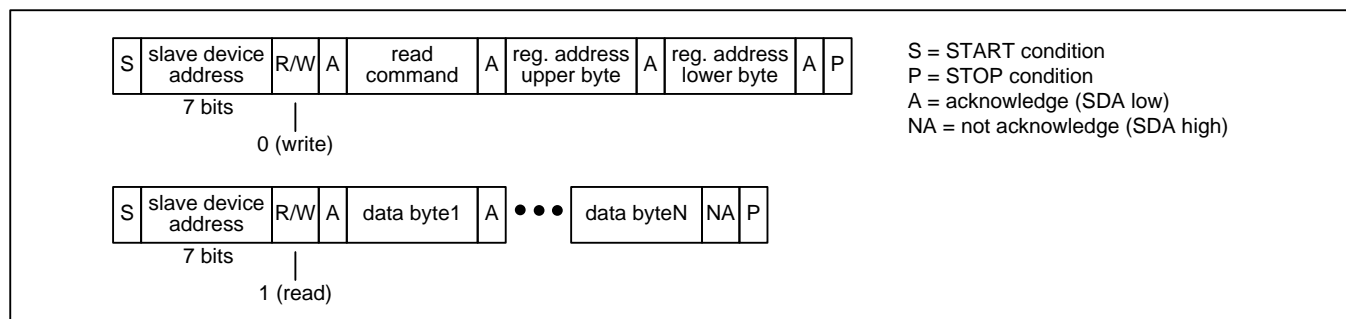
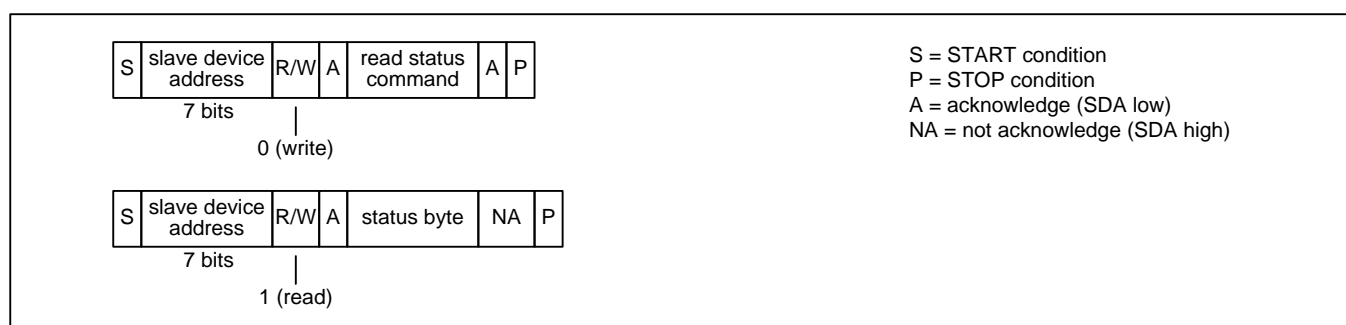

Figure 9 - I²C Read Transaction Functional Timing
Figure 12 - I²C EEPROM Read Status Transaction Functional Timing (ZL30261 and ZL30263 Only)
Read Transactions. The device registers are accessible when the EESSEL bit is 0. On ZL30261 and ZL30263 the internal EEPROM memory is accessible when the EESSEL bit is 1. On ZL30260 and ZL30262 the EESSEL bit must be set to 0. The bus master first does an I²C write to the device. In this transaction three bytes are written: the SPI Read command (see Table 3), the upper byte of the register address, and the lower byte of the register address. The bus master then does an I²C read. During each acknowledge (A) bit the device fetches data from the read address and then increments the read address. The device then transmits the data to the bus master during the next 8 SCL cycles. The bus master terminates the read with a not-acknowledge (NA) followed by a STOP condition (P). See Figure 9. After the I²C write there can be unlimited idle time on the bus before the I²C read, but the device cannot tolerate other I²C bus traffic between the I²C write and the I²C read. Care must be taken to ensure that the I²C read is the first command on the bus after the I²C write to ensure the two-part read transaction happens correctly.
EEPROM Read Status (ZL30261 and ZL30263 Only). The bus master first does an I²C write to transmit the SPI Read Status command (see Table 3) to the device. The bus master then does an I²C read to get the status byte. In this byte, the least significant bit is set to 1 if the transfer is still in progress and 0 if the transfer has completed. See Figure 12. Similar to read transactions described above, the I²C write and the I²C read cannot be separated by other I²C bus traffic.
Note: In Figure 9 through Figure 12, a STOP condition (P) immediately followed by a START condition (S) can be replaced by a repeated START condition (Sr) as described in the I²C specification.